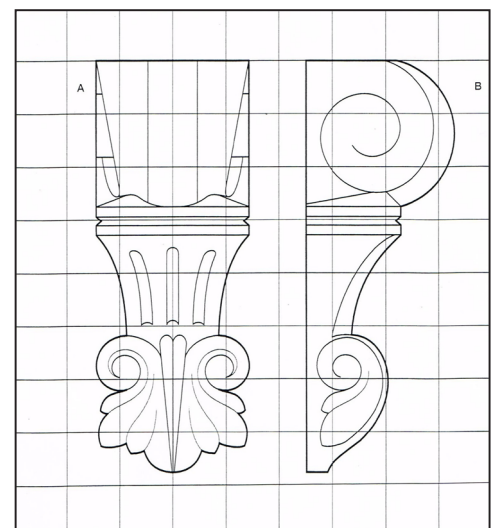

Fig 1
1. To begin this project, first photocopy or redraw the illustration in **Fig 1** to scale and use the drawings to produce stencils. **Pic 2.**
3. Ensure the block of timber is prepared so that it is square and clean. Now select the best face side and face edge, and mark them with the appropriate symbols. Then placed the stencil formed by **Fig 1 A** onto the 'face-side', mark around the edge and cut out the profile as accurately as possible. **Pic 3**. If you have access to a bandsaw, you will find this the quickest and easiest method of cutting the blank.
4. After cutting the first profile of the corbel, place the stencil formed by Fig 1 B onto the 'face-edge'. Draw around the stencil and carefully cut the shape. **Pic 4 & Pic 5**.